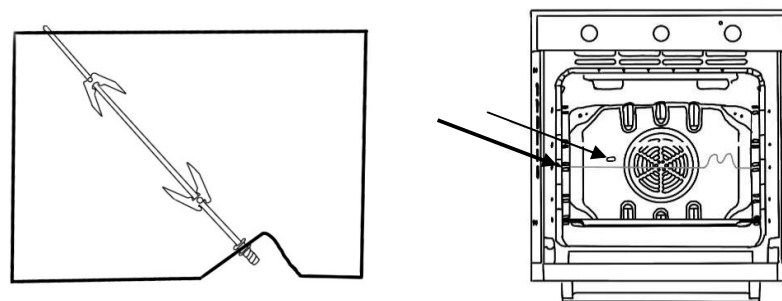

Figure 5
- Insert the special turnspit support on the 3rd rack and position the spit by inserting it through the special hole into turnspit at the back of the oven (Figure 5)